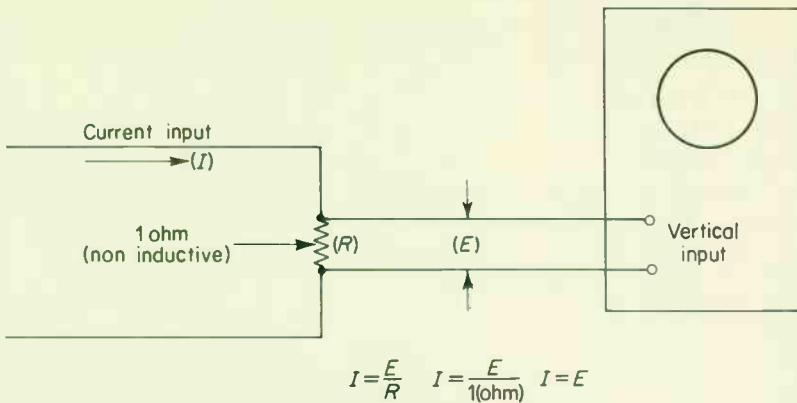

Fig. 6-12. Current measurements with a test resistor.
1. Connect the equipment as shown in Fig. 6-12.